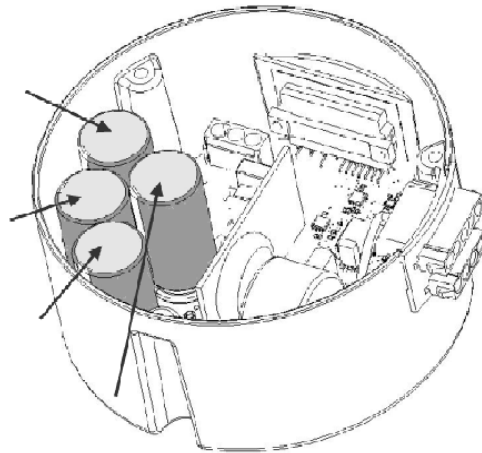

Figure 10
5. Inspect capacitors inside of control unit for bulging or swelling. [Figure 10].